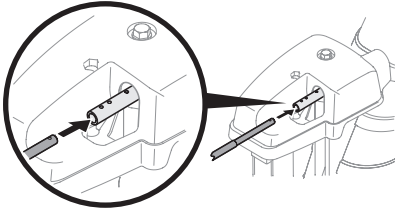

Figure 20
- Insert chute control rod into chute control head. Push rod as far into chute control head as possible, keeping holes in rod pointing upward (Figure 20).